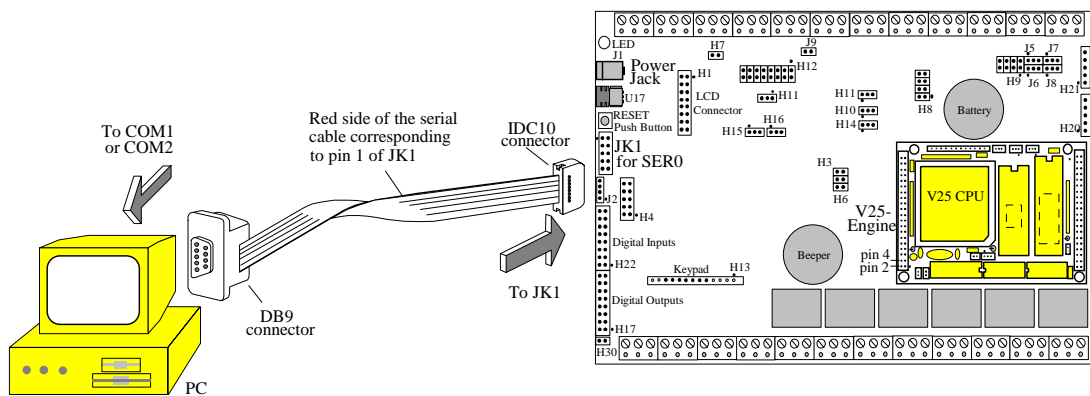

Fig. 2.1. Connection of the PowerDrive with PC
1. Connect the IDC10 connector of the RS232 serial cable to JK1 of PowerDrive™, with the red side of the cable corresponding to pin 1 of JK1 (a small circle close to JK1 indicates pin number 1), and connect DB9 connector of the serial cable to COM1 or COM2, the PC serial port, as shown in Fig. 2.1.